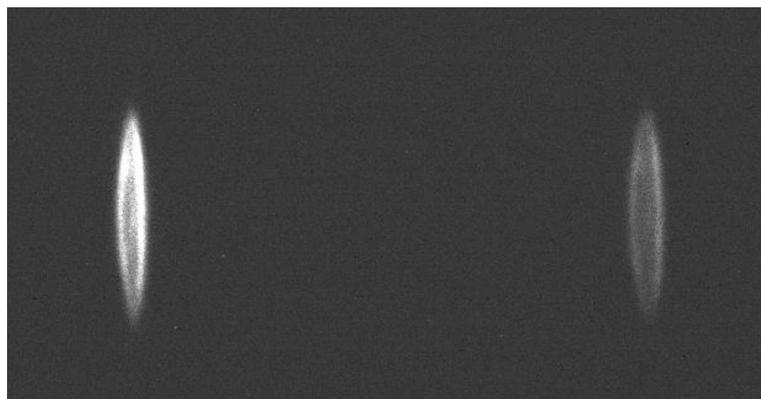
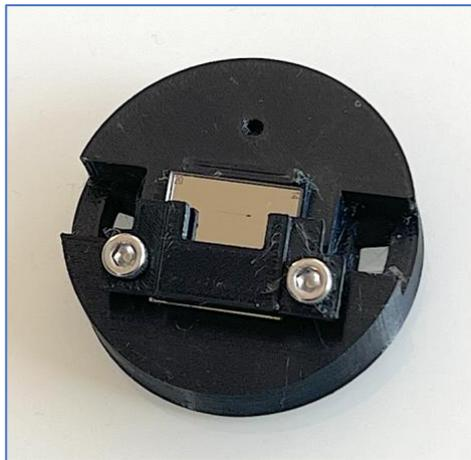

Figure 9. Detail of the neon spectrum when obtained with an uncalibrated spectrograph, showing a mix of astigmatism and defocusing.
Figure 8. Appearance of the slit in its support #1 made using 3D printing.
Step 3: Capture an initial spectrum from the neon lamp. The result will likely be disastrous: images of the lines that are completely blurred and very elongated, as illustrated in figure 8 and enlarged in figure 9. In a well-adjusted spectrograph, the image of the point source created by the hole in the GEN2 slit should appear as a point at each spectral line.
Figure 8. Appearance of the neon spectrum near the H α line obtained with an uncalibrated spectrograph. The source is the 25-micron hole of the Star'Ex GEN2 slit.